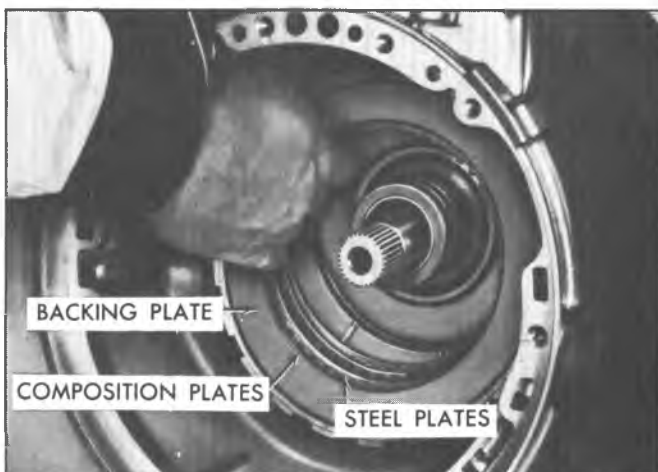
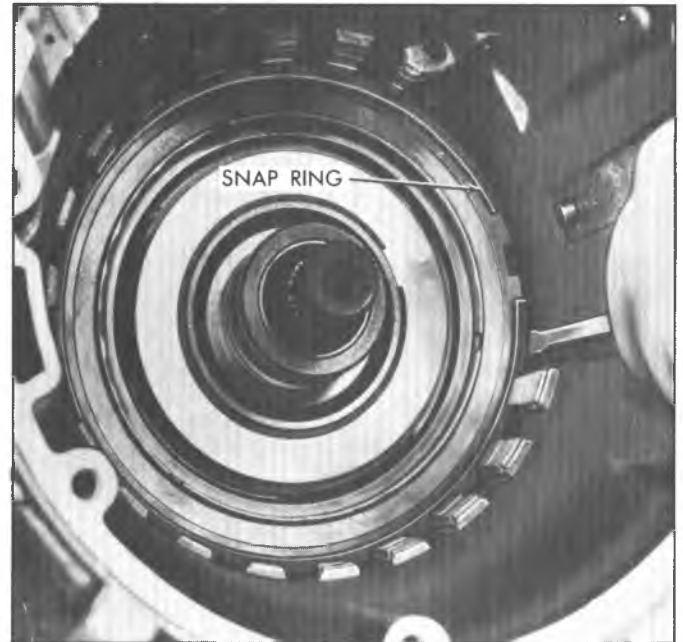

Fig. 34T--Removing Intermediate Backing Plate and Clutch Plates
Fig. 35T--Removing Center Support to Case Retaining Snap Ring
12. Remove intermediate clutch backing plate, three (3) composition, and three (3) steel clutch plates (fig. 34T).
- a. (All except CY Model) Remove three (3) composition, three (3) steel clutch plates and one waved steel plate.
- b. (CY Model) Remove two (2) composition and three (3) steel clutch plates.
14. Remove center support to case retaining snap ring (fig. 35T).